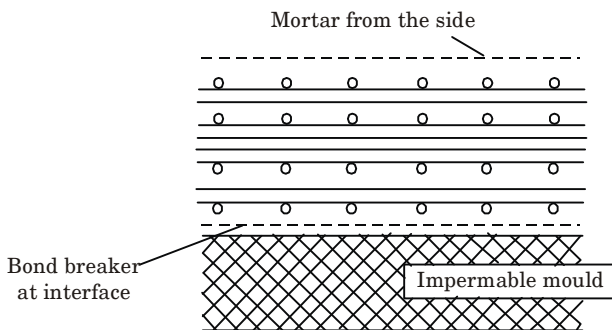

Fig. 5.15.2. Closed mould method.
- i. In this method, several mesh or mesh-and-rod combination are held together in position against the surface of a mould (Fig. 5.15.2).